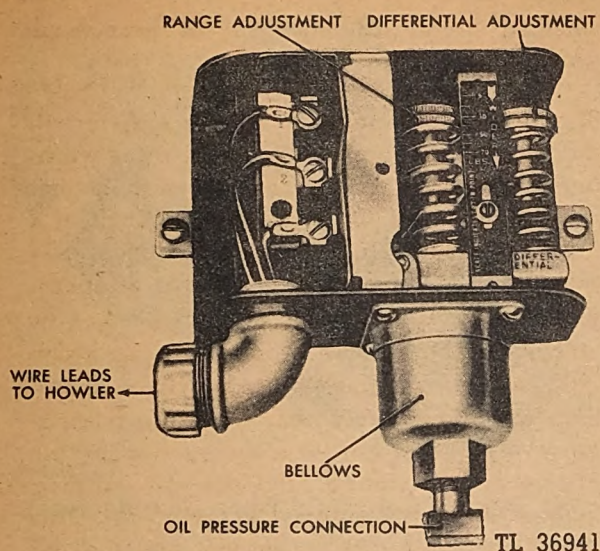

Fig. 289. Oil Pressure Switch
*a. Oil-Pressure Switch.* The oil-pressure switch is all-metal construction. The springs, levers and pins are plated to resist rust and corrosion. The contacts are contained in a small bakelite case, made moistureproof by means of a tightly fitting, molded rubber cap and a flexible rubber seal on the contact-operating push rod. The low-pressure setting at which the switch should cause the howler to sound should be somewhere between 7 and 10 pounds. If this switch must be readjusted, proceed as follows, referring to Figure 289.
- (1) Turn the differential adjustment (see Figure 289) to approximately 17 pounds.
- (2) Place the range adjustment somewhere between 7 and 10 pounds.